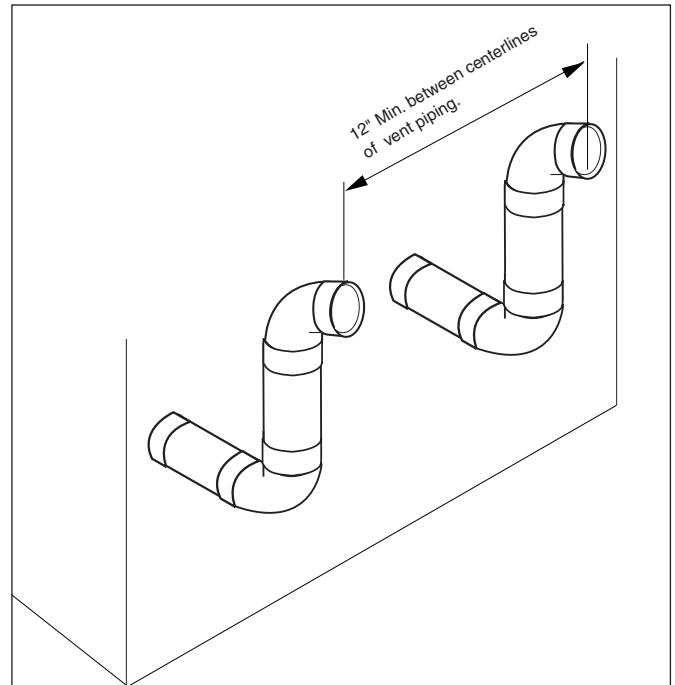

Fig. 13: Category IV - Multiple Sidewall Terminations
- The wall penetration of the vent should be a minimum 12 inches [304,8 mm] from the adjacent vent pipe of the other boiler for installations in the U.S (see Fig. 13). For installations in Canada, provide clearances as required by CSA B149.1 or 149.2.